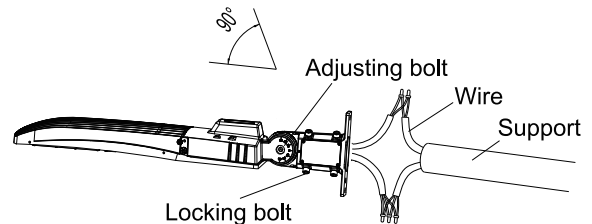

Figure 15
Step 2: Loosen the four bolts on A&D bracket, connect the wires correctly, and pull the wires into the poles. (Figure 15)
Step 3: Place the bracket into the pole and lock the four bolts. (Figure 15)
Notice: Adjustable angle is 0-90° (Figure 15)